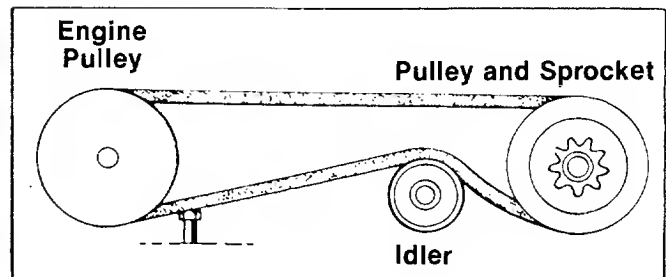

FIGURE 31.
11. Reassemble in reverse order with the new belt, making certain the idler pulley is under the belt. See figure 31.